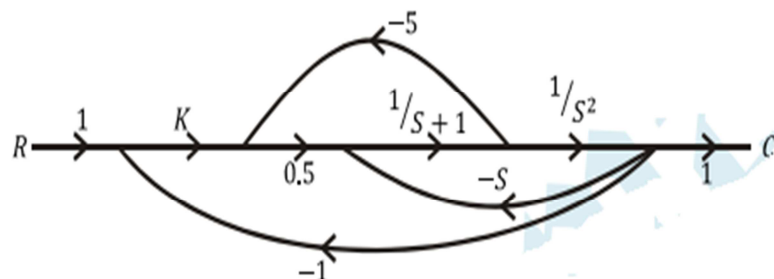

Figure Q4c)
- c) Determine the restrictions on K for which the system represented by the SFG in Figure Q4c) is stable (4 marks)